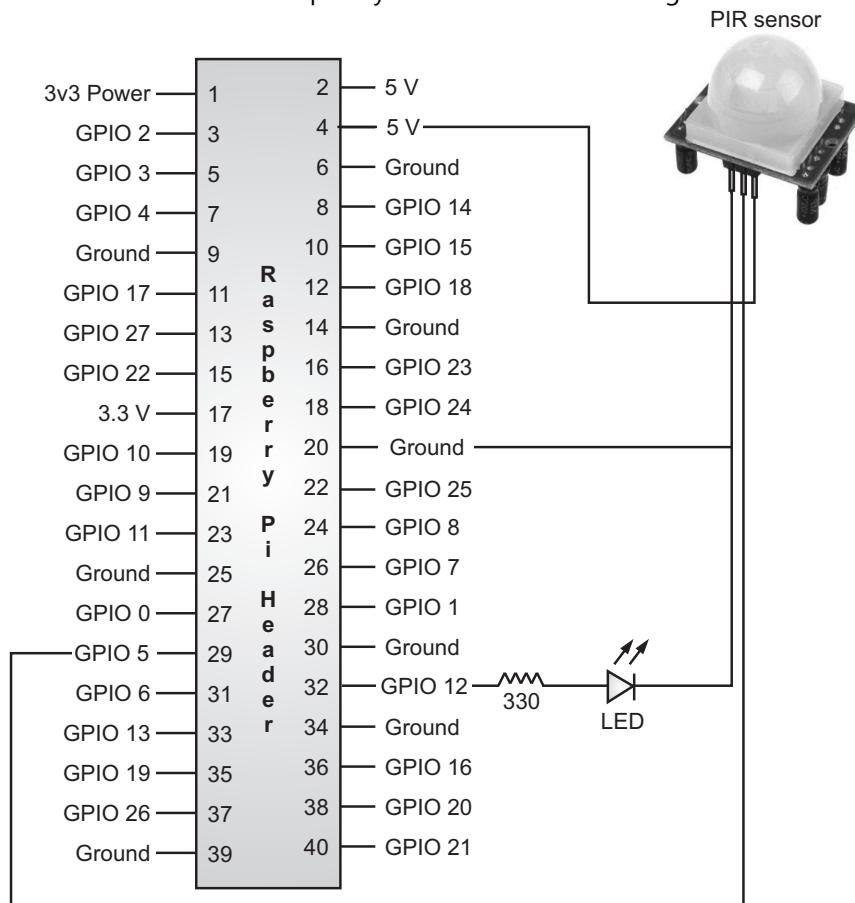

Fig. 4.13 : Interfacing PIR sensor to Raspberry Pi
- PIR sensor is interfaced to Raspberry Pi as shown in below Fig. 4.13.